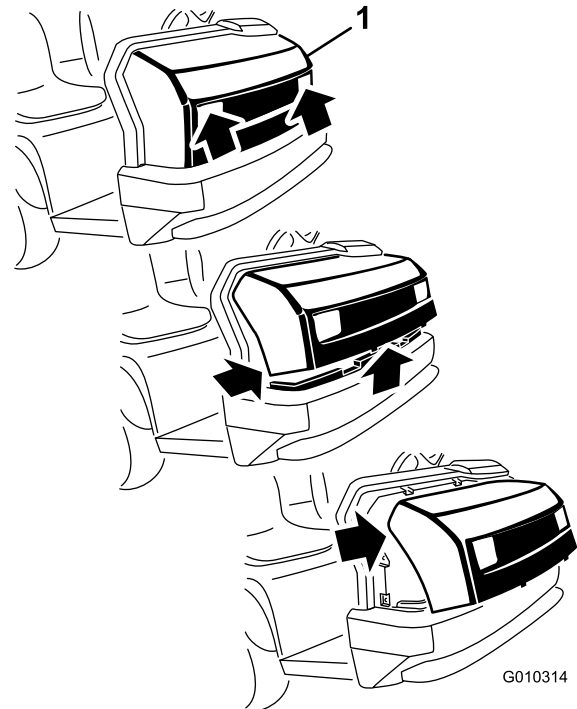

Figure 28
1. While grasping the hood in the headlight openings, lift up the hood to release the lower mounting tabs from the frame slots (Figure 28).
2. Pivot the bottom of the hood upward until you can pull the top mounting tabs from the frame slots (Figure 28).
- Pivot the top of the hood forward and unplug the wire connectors from the headlights (Figure 28).
- Insert the top mounting tabs into the frame slots (Figure 28).
- Insert the lower mounting tabs into the frame slots (Figure 28).